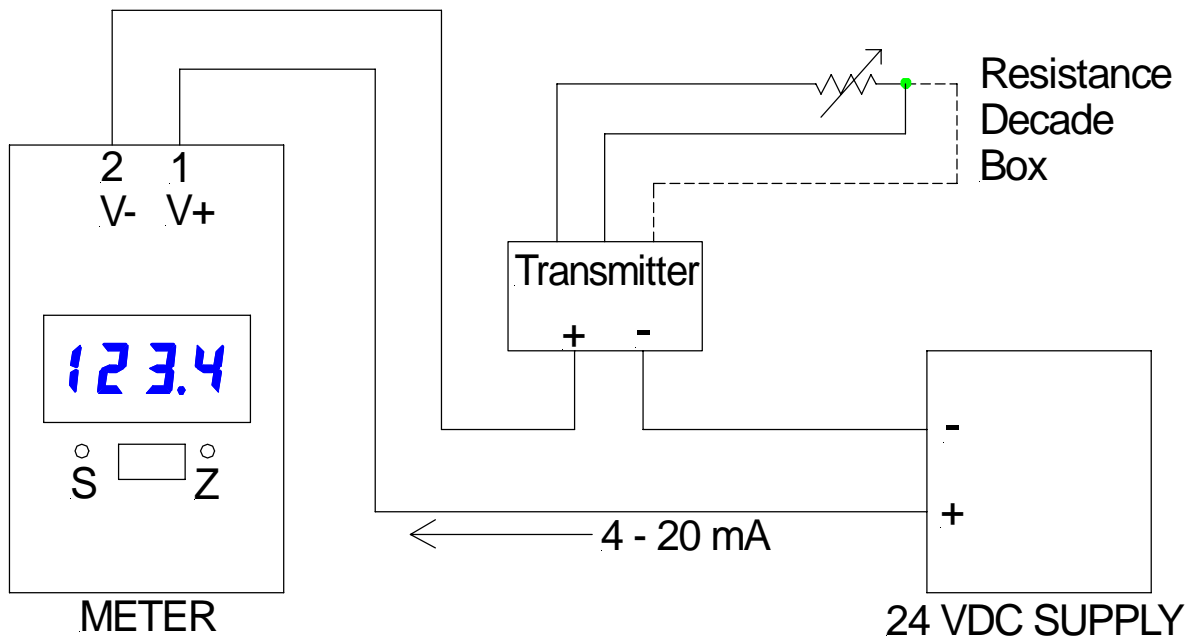

Figure 2
1. Hook-up the equipment as shown in the Figure 2. Pull terminal block off from PC board, screw wires onto block, then re-plug block onto board.